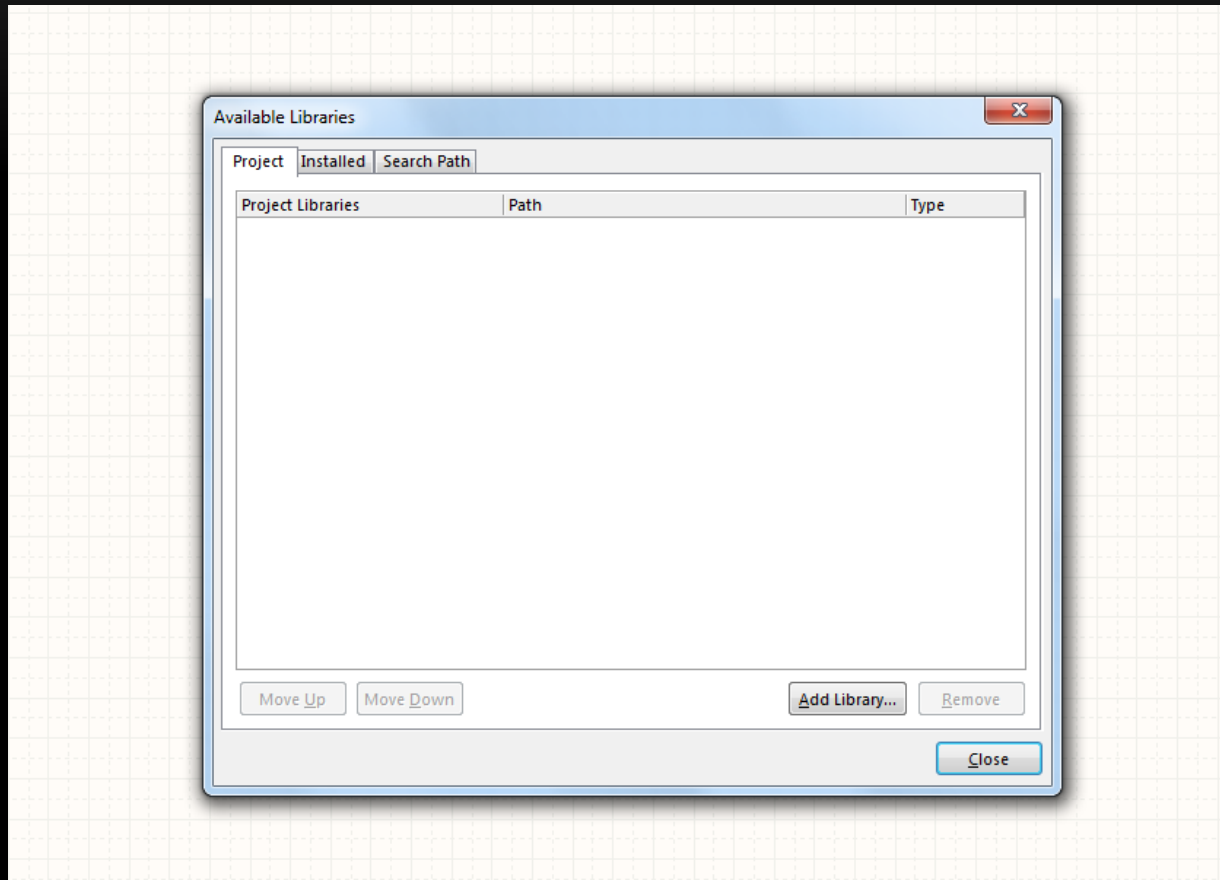

Figure 14
- Open library panel and select project tab. (Figure 14)